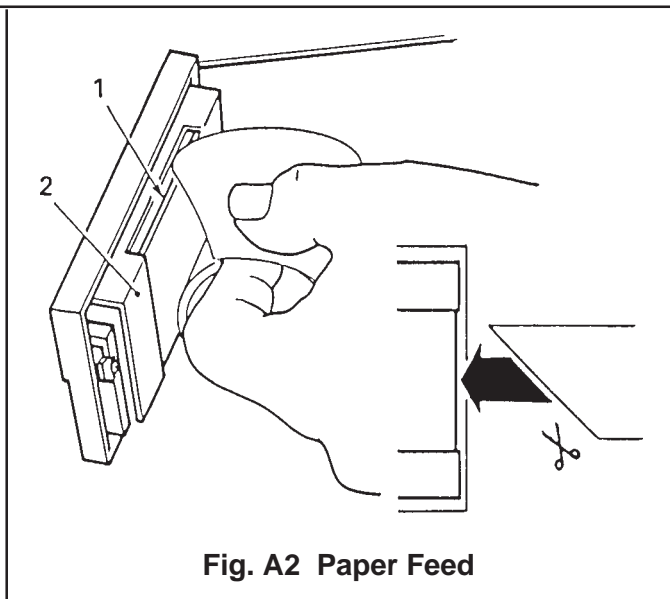

Fig. A2 Paper Feed
- g Using scissors, trim end of paper roll at an angle (Fig. A2) and insert this end of paper into paper input slot (A2-1). Press paper feed actuator arm (A1-7) until mechanism grips paper and pulls it through to front of printer door.